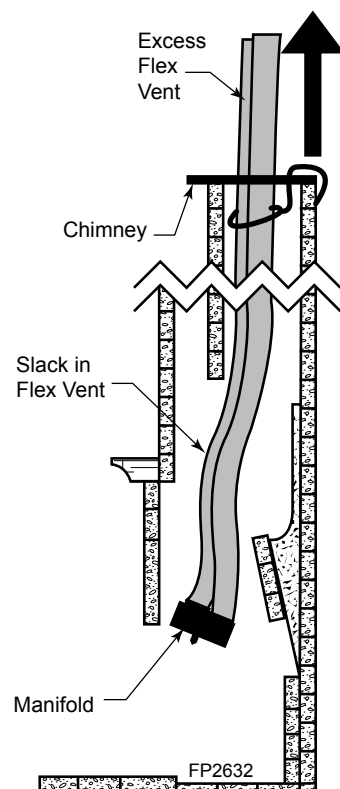

**Figure 12 -
5. Place manifold in an upright position. Pull on excess flex vent. *Figure 12.* Temporarily attach flex vent to top of chimney. Leave some extra slack in flex vent.